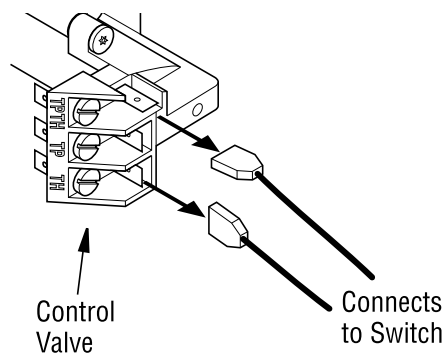

Figure 18 - Disconnecting Switch from Control Valve
6. Disconnect switch wire from control valve at TPTH and TH locations (see **Figure 18**).
7. Connect wires from hardware pack (with remote receiver bracket) to control valve at the TPTH and TH locations as shown in **Figure 18**. Connect other ends of these wires to remote receiver wires.